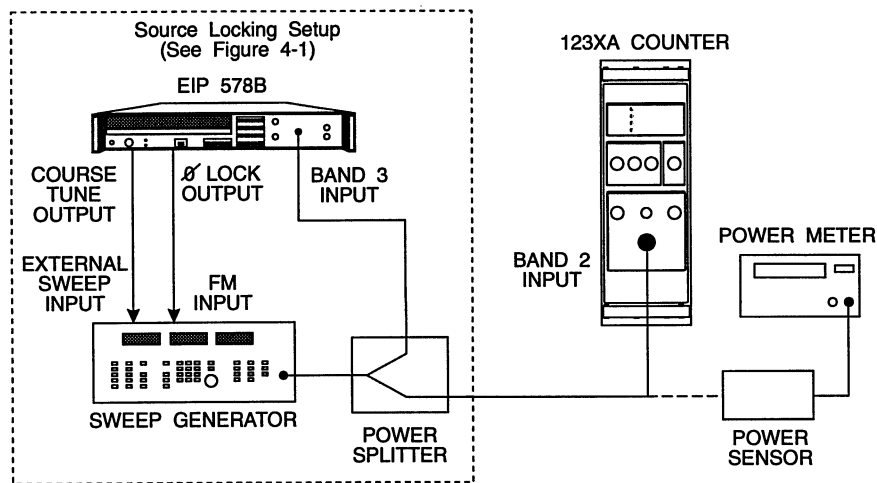

Figure 4-5. Band 2 Frequency Range and Sensitivity Test Setup (CW Mode).
1. Connect equipment as shown in Figure 4-5.